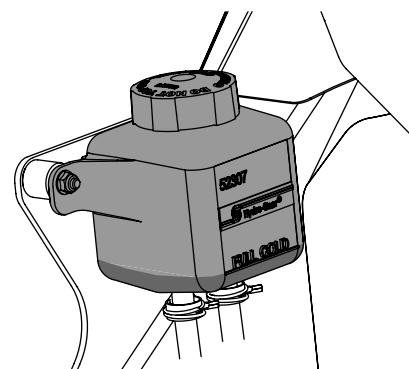

Figure 13
1. Clean the reservoir cap and the area around the cap to prevent debris from contaminating the transmission oil. See Figure 13.
2. Turn the reservoir cap counter-clockwise to remove, then check the oil level in the reservoir. Oil should be visible at the bottom of the cup, but the oil level must NOT be above the "FULL COLD" line. See Figure 13. DO NOT FILL THE RESERVOIR.